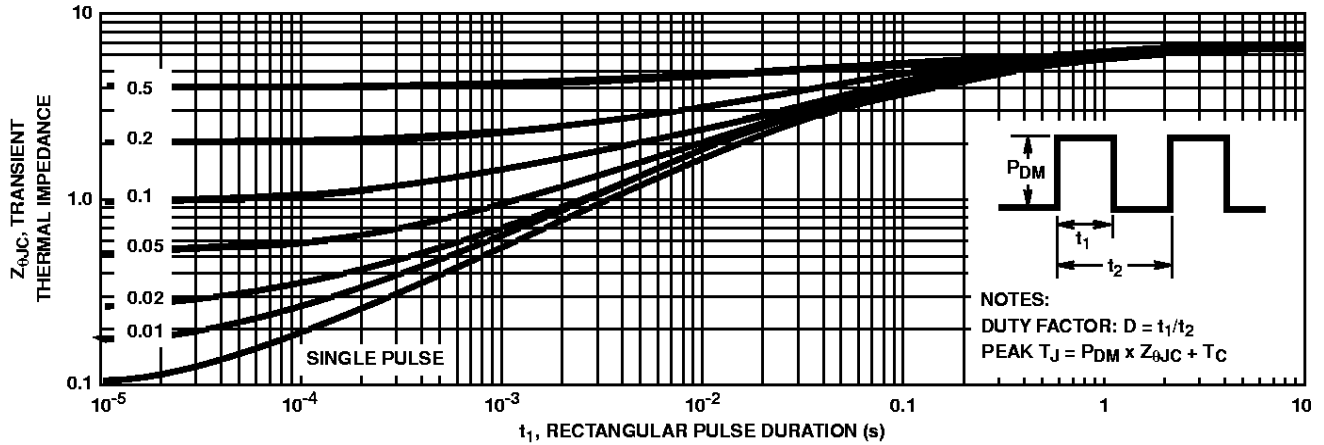

FIGURE 3. MAXIMUM TRANSIENT THERMAL IMPEDANCE
3. Repetitive Rating: pulse width limited by maximum junction temperature. See Transient Thermal Impedance curve (Figure 3).